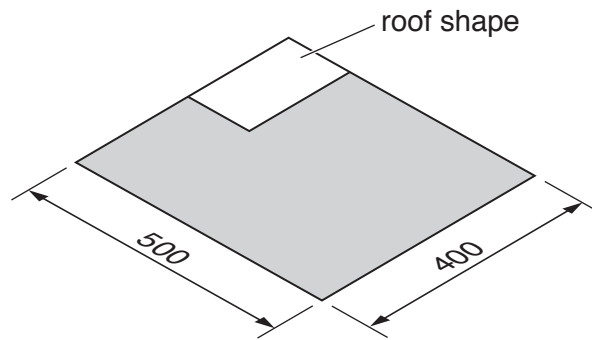

Fig. 13
- (e) Fig. 13 shows the roof of the bird feeder marked out on a sheet of acrylic.